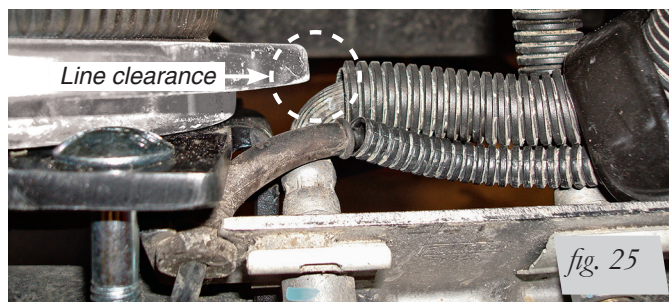

fig. 25
1. Once the left (driver) side assembly has been completed, review the RSC Brake/ABS line clearance and adjust if necessary (fig 25).